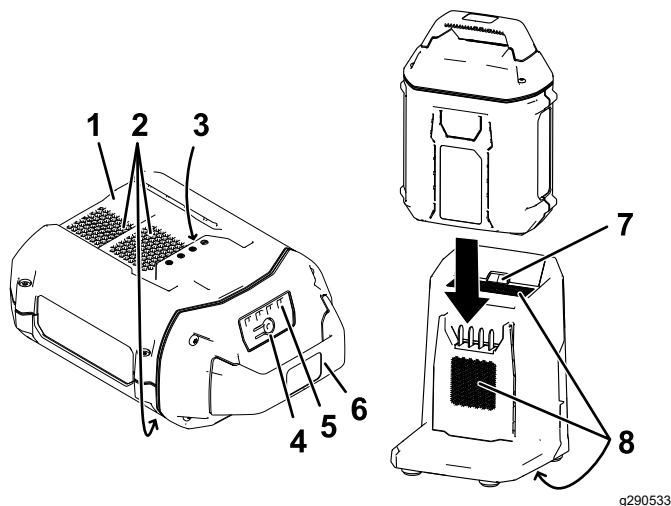

Figure 20
2. Line up the cavity in the battery pack (Figure 20) with the tongue on the charger.
3. Slide the battery pack into the charger until it is fully seated (Figure 20).